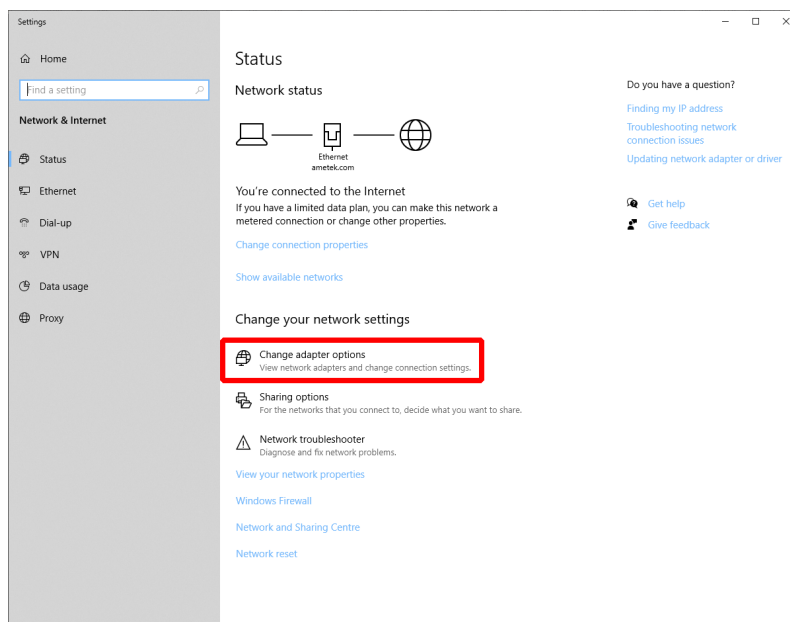

Fig. 4-2 Status screen
- The **Status** screen is displayed. See Fig. 4-2 below.